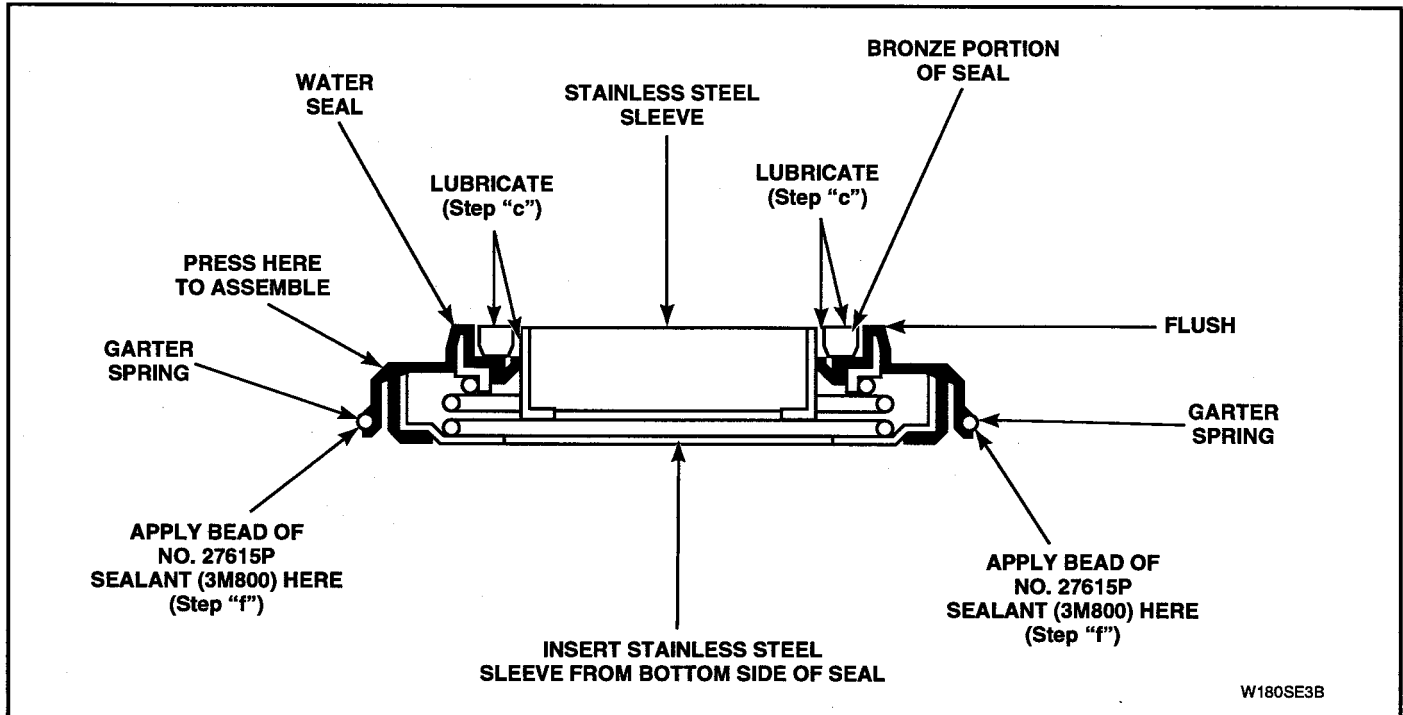

Figure 5-35
- b. Apply a small amount of No. 27615P Sealant (3M800) (obtain from local Parts Distributor) around outer surface of tub flange. See Figure 5-35.
- c. Apply a light film of nonstaining petroleum jelly (such as Vaseline®) to bronze portion of water seal and to outer surface of stainless steel sleeve. See Figure 5-35.
- d. Insert stainless steel sleeve into water seal from bottom of water seal. See Figure 5-35, until stainless steel sleeve is flush with bronze portion of water seal.
- f. Carefully apply a small amount of No. 27615P Sealant (3M800) (obtain from local Parts Distributor) around outer edge of water seal and tub (area located just below garter spring). See Figure 5-35.